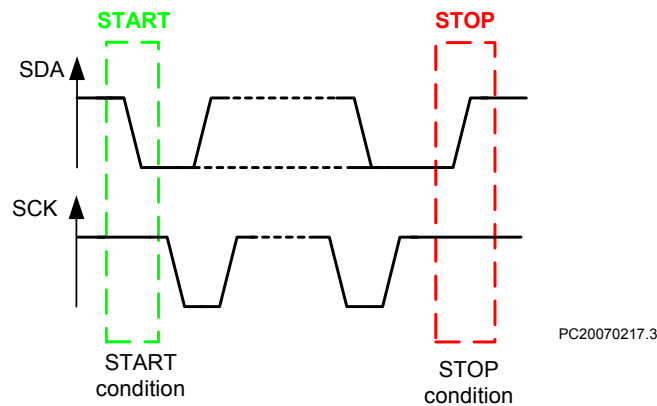

Figure 26: START and STOP Conditions
Within the procedure of the I²C-bus, unique situations arise, which are defined as START (S) and STOP (P) conditions (See Figure 26). A HIGH to LOW transition on the SDA line while SCK is HIGH is one such unique case. This situation indicates a START condition. LOW to HIGH transition on the SDA line while SCK is HIGH defines a STOP condition.